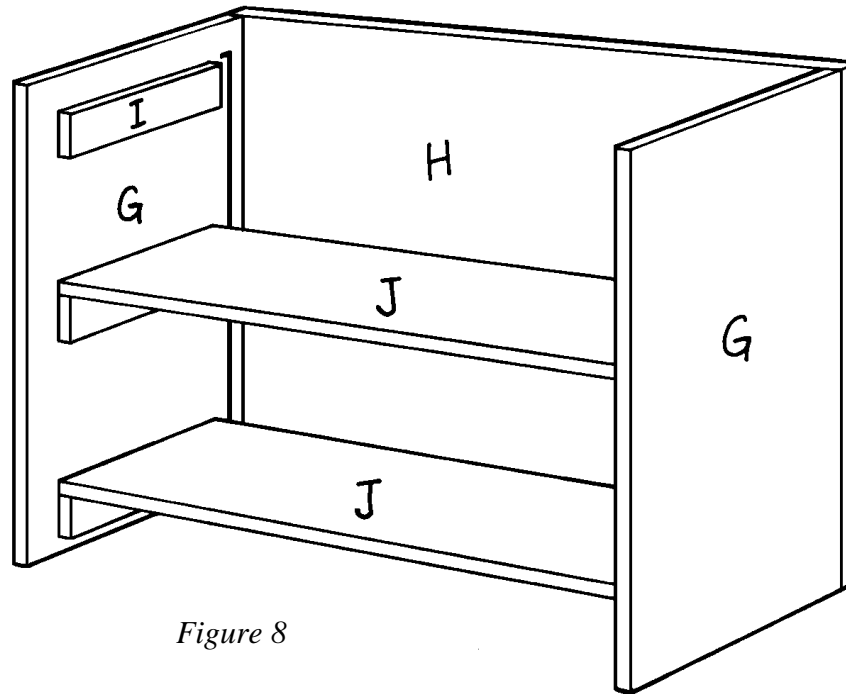

Figure 8
1. Cut two 36"-long shelves (J) from 1 x 12 pine.
2. Install one shelf (J) between the two sides (G) and over the middle inner supports (I), as shown in *Figure 8*, placing the shelf (J) 1-1/2" from the front edges of the sides (G). Glue the
3. Repeat Step 14 to attach a second shelf (J) over the lowest pair of inner supports (I), as shown in *Figure 8*.